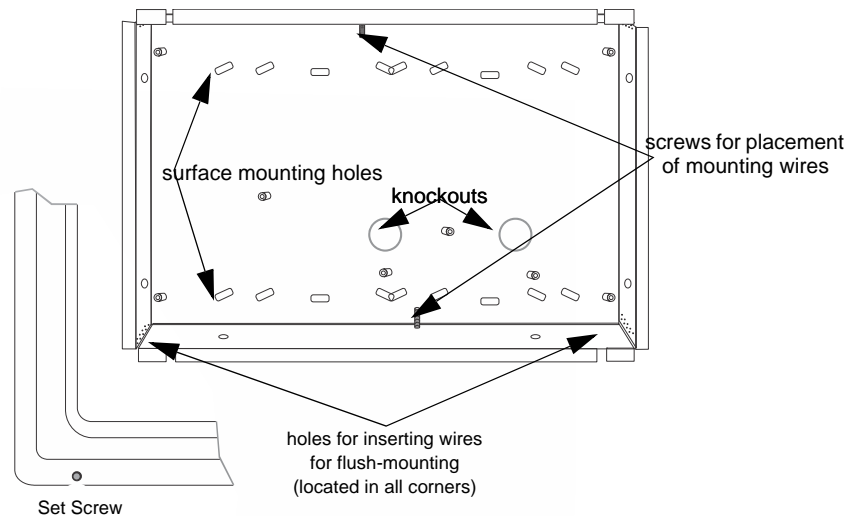

Figure 4.16 Annunciator Backbox and Bezel Details
The TR-RD1G/R comes from the factory fully assembled. You must disassemble it for mounting. To disassemble the annunciator, use a 5/64"2mm hex wrench to remove the set screws, located on the bottom of the annunciator bezel. (See Figure 4.16 for location of the set screws.)
1. Drill holes in the surface to match the screw holes on the backbox. Refer to Figure 4.16 for locations.
5. Replace the electronic assembly in the backbox. Place the bezel over the backbox and tighten the set screws on the bezel. Refer to Figure 4.16 for location of set screws.